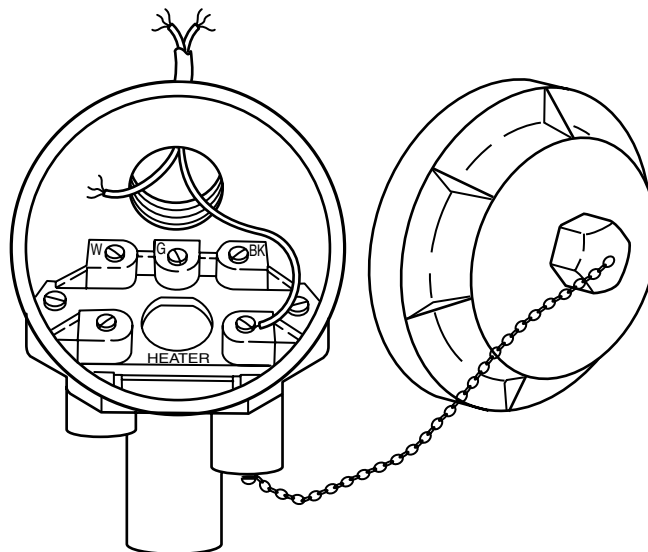

Figure 10. Connection Head
2. Measure resistance between terminals W and BK (see Figure 10). Resistance should be about value specified for this temperature in Measurement-Temperature Table listed on page 14. If resistance is not correct, replace RTD.